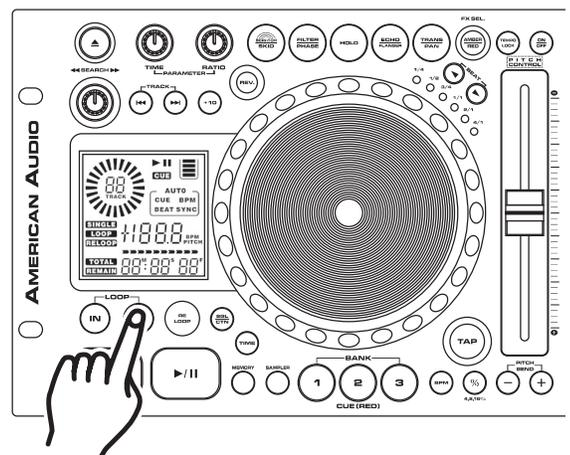

Figure 23
- **FOR A SHORTER LOOP:** Press the **OUT BUTTON (24)** at sooner point in the track (Figure 23).
- **FOR LONGER LOOP:** Press the **OUT BUTTON (24)** at later point in the track (Figure 23).
- 2) Press the **MEMORY BUTTON (31)**. The **MEMORY BUTTON (31)** will glow red indicating memory is ready to be stored.
- 4) The **MEMORY BUTTON (31)** L.E.D. will turn off, when your sample is locked into memory.
- 5) At this point your sample has been stored into memory. The original loop you used to create the sample will remain playing until the **OUT BUTTON (24)** is pressed (Figure 23).